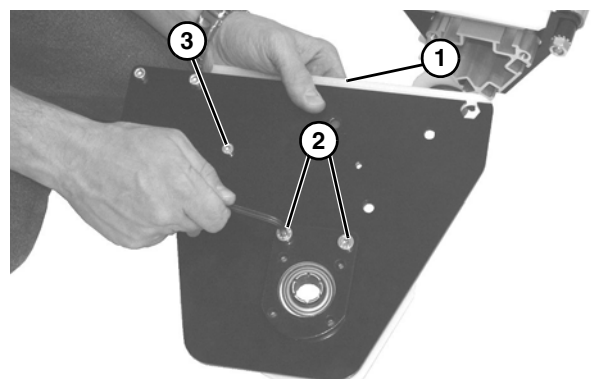

Figure 32
14. Check drive terminal assembly (**Figure 32, item 1**) for wear. If worn, remove two low head cap screws (**Figure 32, item 2**) and low head cap screw (**Figure 32, item 3**) and replace.